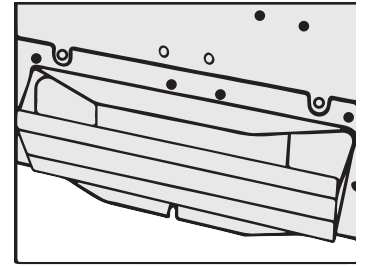

Figure 5
- Using the supplied screws, attach the rectangular vent/damper to the rear of the range hood (see Figure 5).